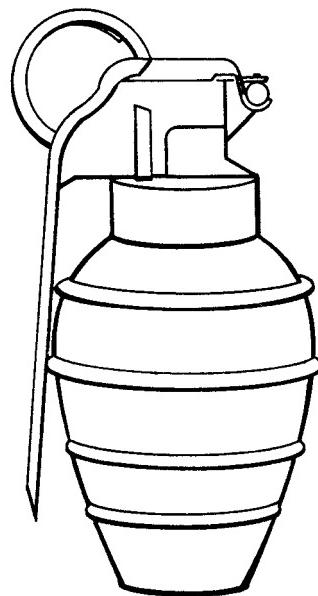

Figure F-22. HdGr 72 hand grenade.
- Type: Defensive. (Figure F-22)